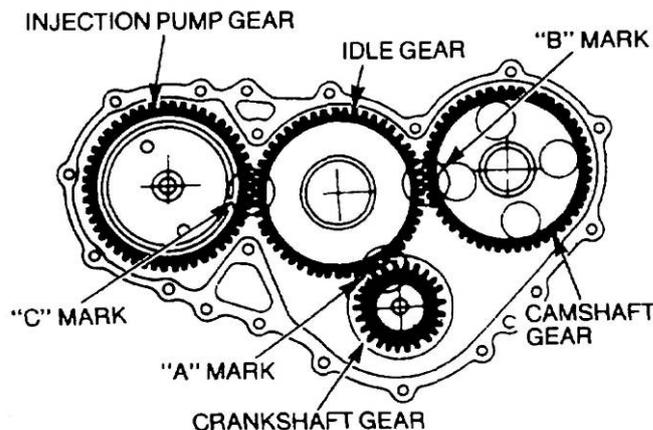

Figure 56 Aligning the Gear Timing Marks
- ddd.** Ensure that the timing marks are aligned (Figure 56), lock the flywheel to prevent it from turning and torque the camshaft drive gear retaining bolt to 123 to 152 N.m (90 to 112 lbf.ft).